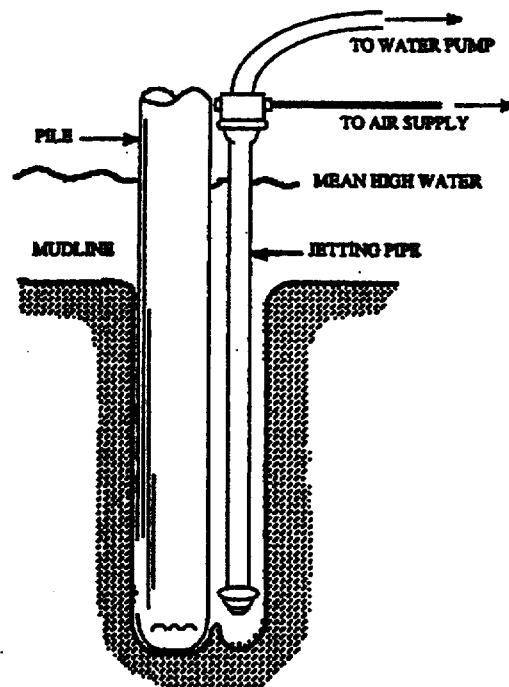

Fig. 10-2 Jelling with a single jet pipe
- a Jetting is the use of water pressure supplied through a pipe along the side of the pile to facilitate pile driving (See **Figure 10-2.**) The purpose of jetting is to loosen the soil under the point by water pressure. It is most useful in sinking piles when pile driving equipment is lacking. It may be used alone or with compressed air or a weighted pile. A weighted pile is one with a sinker, or other heavy object, resting on top of the pile.